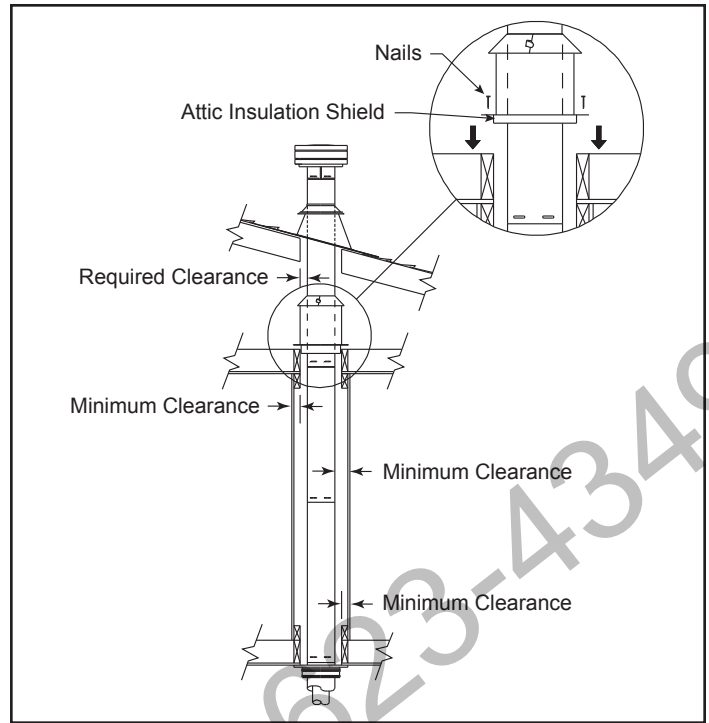

Figure 37
1. For multi-story vertical installations, a ceiling firestop is required at the second floor, and any subsequent floors, Figure 37. Cut and frame a 9" x 9" (229 mm x 229 mm) square opening for installation of the ceiling firestop.
3. If venting system passes through an attic space an attic insulation shield must be installed to prevent contact between pipe sections and the insulation. Nail the base to floor of attic and adjust shield for appropriate insulation level, then attach the collar at the top of assembly, Figure 37. For vaulted